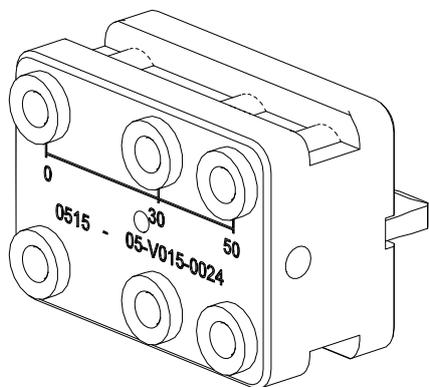
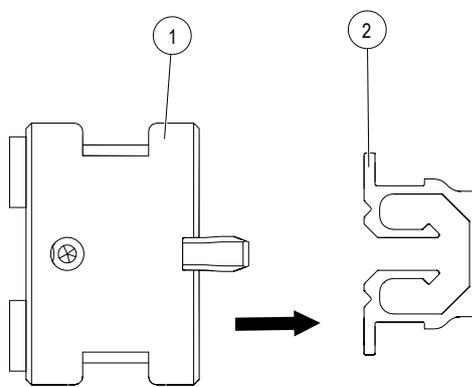

Fig. 86: Flexible drilling jig
Fig. 87: Slide the drilling jig (1) into the data rail (2)
- The PE connection is mounted on the data rail. The flexible drilling jig is used for the drill holes in the data rail (see Fig. 86 and Fig. 87).